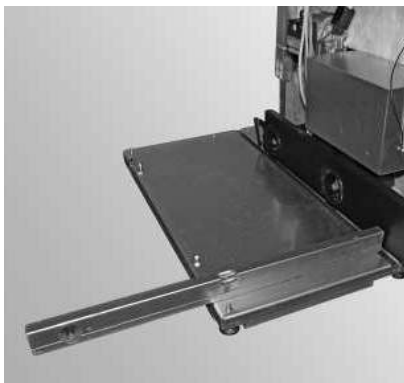

Fig. 14 Aligning boiler
- Align the boiler and floor plate with the set screws horizontally or slightly inclined toward the rear – Fig. 14.